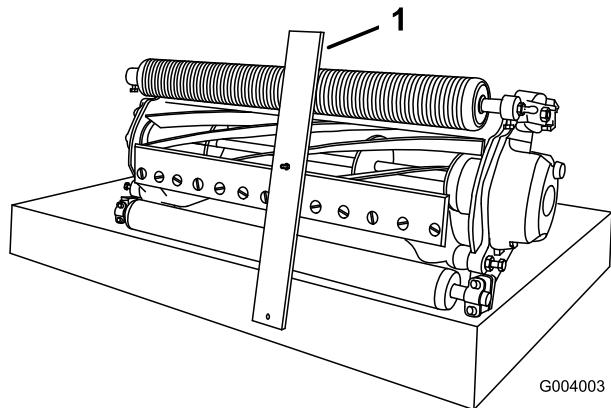

Figure 17
- Hook the screw head onto the cutting edge of the bedknife and rest the rear end of the bar onto the rear of the roller (Figure 17).